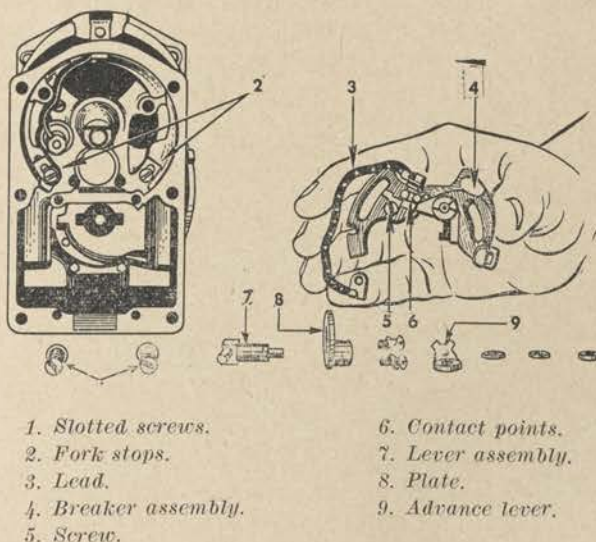

Figure 224. Breaker assembly.
(g) *Replacing breaker assembly (fig. 224).* In order not to disturb the spark advance fork stops (2) when removing the breaker assembly, take off the spark advance lever (9), and plate (8), and then the lever assembly (7). Remove the slotted head screws (1) and pull out the breaker assembly (4) after removing the lead (3) from the condenser post. The breaker assembly is replaceable as a unit. The lever assembly (7) is provided with tungsten contact which can be pressed out and replaced with a new rivet. If the lever assembly cam service is worn, replace the lever itself. Before replacing the breaker assembly, adjust the unit as described below.
(i) *Timing.* To obtain maximum spark intensity when the breaker points separate, and to insure proper timing, position the induction rotor with respect to the breaker plate. Remove the plate and gasket covering the inspection holes in the base of the housing. With the magneto lying on its side so the top is toward the operator and the impulse starter is to the right, insert the shank of a No. 31 drill (0.1200-inch diam.) or a 1/8-inch drill through the upper hole. Turn the impulse starter the reverse of the operating direction until the drill is locked lightly between the inductor rotor and lower pole-shoe. Loosen the fork stop screws (2, fig. 224) and shift the breaker plate until the contact points just start to separate. To check this, use a 6-volt "split lamp circuit," or draw a piece of cigarette paper between the contact points. This is the maximum spark advance position. Lock the fork stop against the breaker plate on the opposite side of the magneto from the advance lever. This limits the travel of the breaker plate. To obtain the retard position, rotate the breaker plate counterclockwise 3/8 inch or 15° and lock the fork stop adjacent to the advance lever.